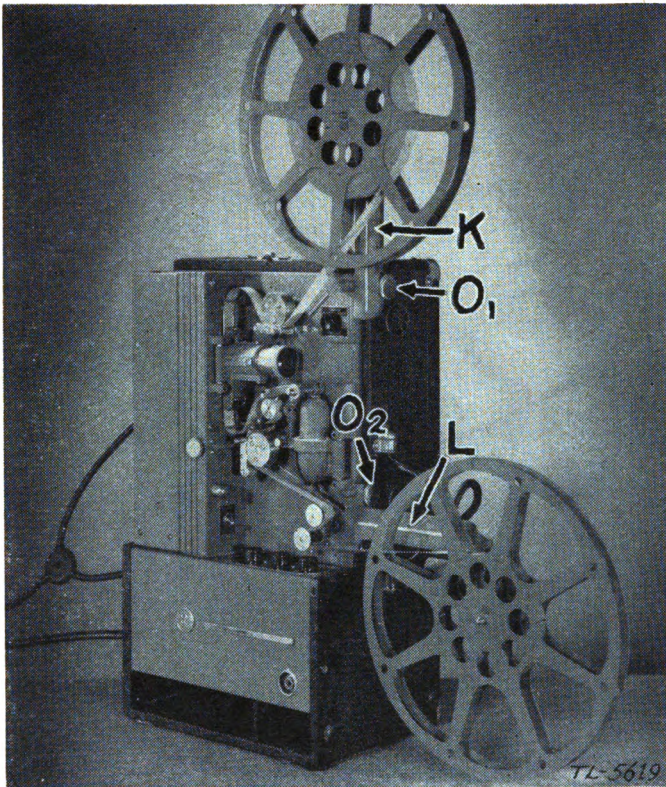

FIGURE 8.—R. C. A. projector ready for operation.
(4) *R. C. A.* (fig. 8).—(a) Remove projector case cover.